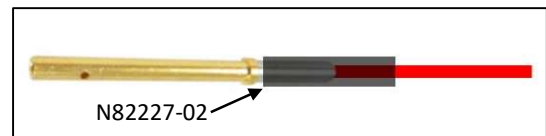

Figure 9 – Heat Shrink Tubing Applied Over Drain Wire Extended Terminal Crimp Area
10. Extract the drain wire terminals of splice connector SC95N (see figure 8 for the terminal positions) and add 25mm of heat shrink tubing P/N N82227-02 over the extended terminal crimp area (see figure 9 on next slide).
- g) Add 25mm of heat shrink tubing P/N N82227-02 over the extended terminal crimp area (see figure 9).